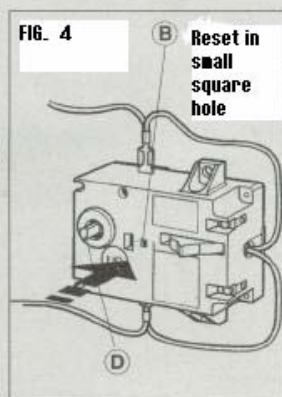

FIG. 4
Temperature Setting	<p>After installation check the water temperature. If adjustment is necessary, remove front cover to adjust thermostat (D Fig. 4 – clockwise to increase the temperature and counter clockwise to decrease it).</p> <p>To reach the thermostat:</p> <ol style="list-style-type: none"> 1. Pry off the round cover plate (V Fig 3/1) from its right hand edge (W Fig 3/1) with a small flat-head screwdriver. 2. Remove the Phillips screw revealed beneath the round cover plate. 3. The cover (C Fig. 3/1) can now be removed by pulling out its left-hand edge. When reassembling, work in the opposite way being careful to insert the tongue of the cover into the slot.
4. Firmly press reset button (**B Fig. 4**). Reconnect power.
1. Remove cover plate and turn the temperature selector dial (**D Fig. 4**) counter clockwise to lower temperature. If temperature never lowers then replace thermostat. (see section on changing the thermostat).
1. Adjust the temperature selector dial (**D Fig. 4**) clockwise to increase temperature.